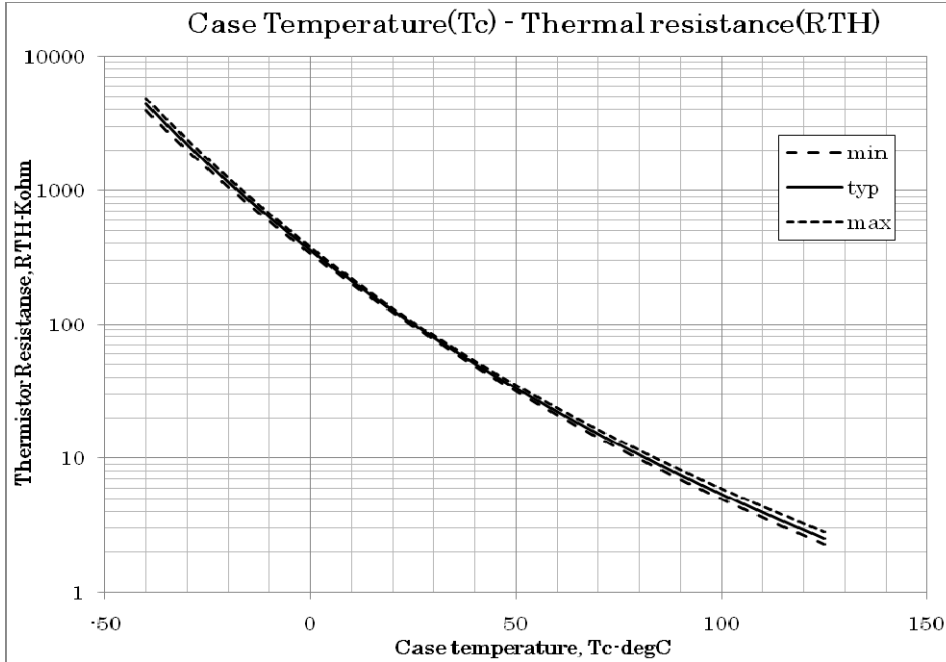
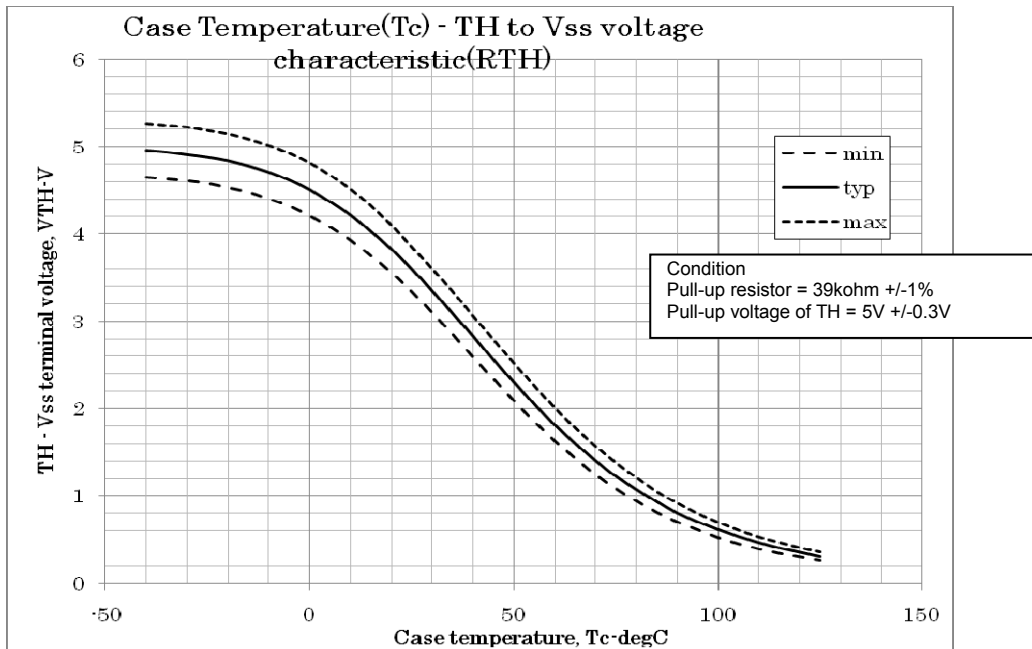

Fig.11 Variation of thermistor resistance with temperature
Fig.12 Variation of temperature sense voltage with thermistor temperature
4. Inside the IPM, a thermistor used as the temperature monitor for internal substrate is connected between “TH1” and “TH2”. Generally, one of terminals is connected to V_{SS}, and the other is pulled up to external power supply with pull-up resistor (Rp) externally. The temperature monitor example application is as follows please refer the Fig.11 and Fig.12 below.